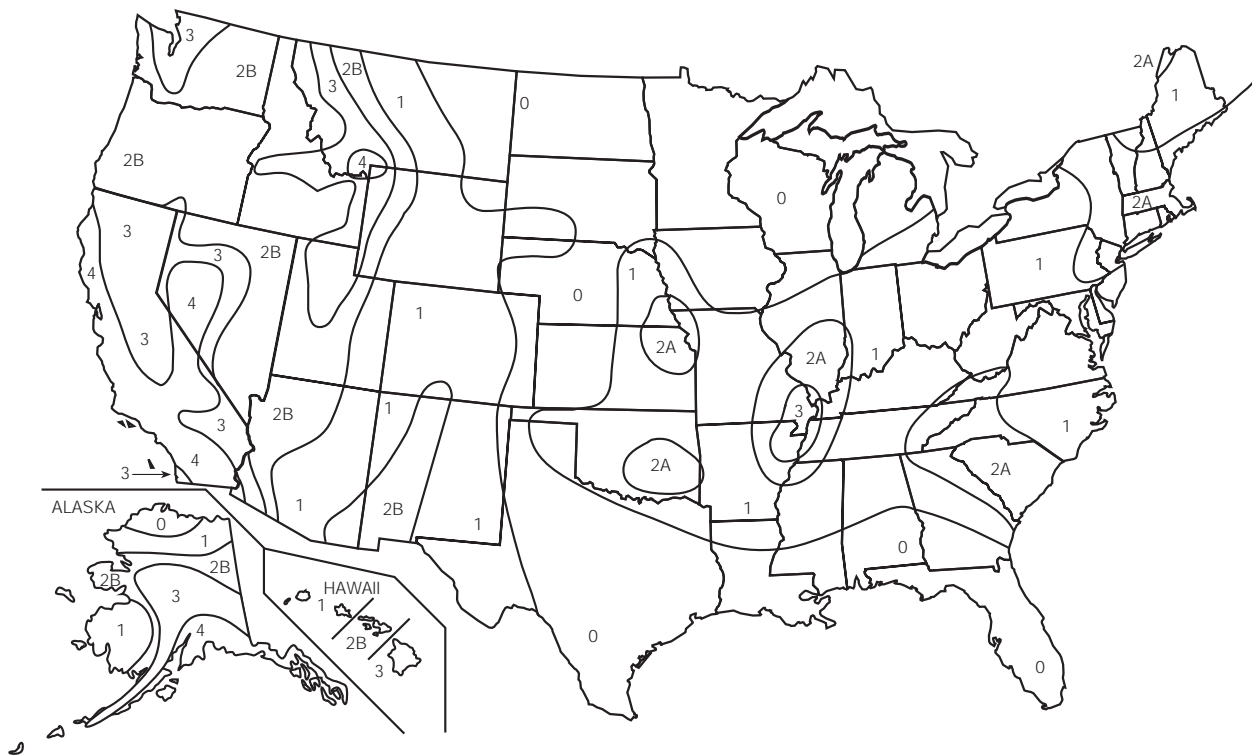

Figure 1-31
Figure 1-31 is a seismic zone map of the United States. The various zones are numbered 0 (little likelihood of damage) through 4 (likelihood of major damage) which indicate, on an ascending scale, the severity of damage likely as the result of earthquakes. The effects of seismic forces should be considered on vessels being installed in zones 1 through 4.
- **The seismic zone** (from Figure 1-31) in which the vessel will be installed.